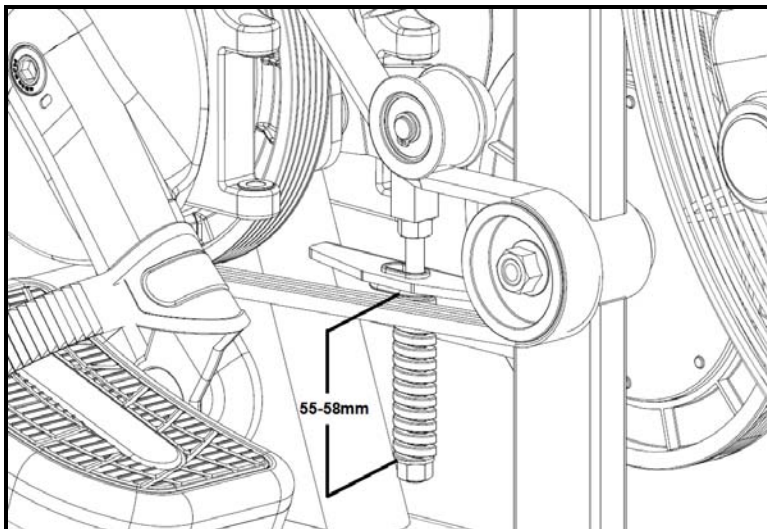

Fig. 9
10. Verify proper tension is applied to the belt by adjusting the idler assembly to compress the die spring between 55-58 mm (Fig. 9) from end to end.